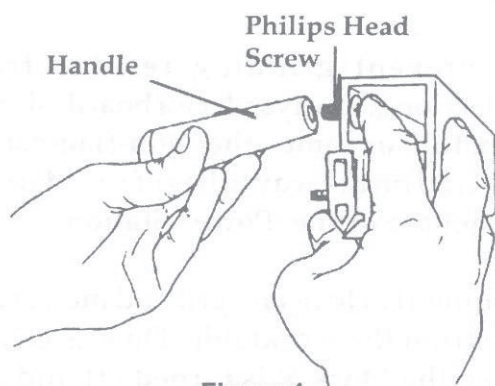

Figure 1
1. Insert a Philips head screw (2) through a hole in the top of the Knife Sharpener Body (1), with the screw head inside of the body.
2. Hold the head of the screw (2) while you thread on the handle (8), see Figure 1.